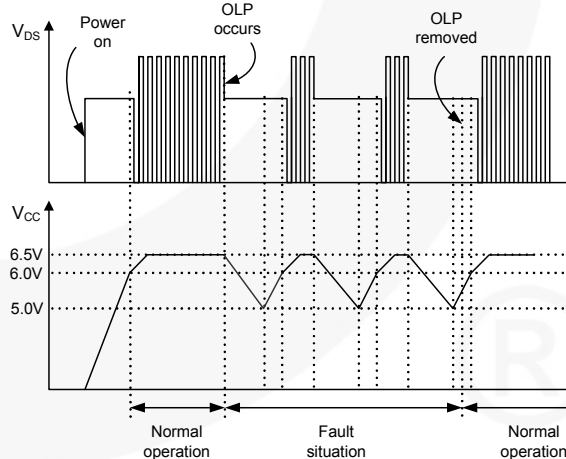

Figure 17.Auto Restart Protection Waveforms
3. Protection Circuits: The FSQ500L has two self-protective functions: overload protection (OLP) and thermal shutdown (TSD). While OLP is implemented as auto-restart mode, there is no switching when TSD triggers. Once the overload condition is detected, switching is terminated, the senseFET remains off, and HV/REG turns off. This causes V_{CC} to fall. When V_{CC} falls below the under voltage lockout (UVLO) stop voltage of 5.0V, the protection is reset and the startup circuit charges the V_{CC} capacitor. When V_{CC} reaches the start voltage of 6.0V, the FSQ500L resumes its normal operation. If the fault condition is still not removed, the senseFET and HV/REG remain off and V_{CC} drops to V_{STOP} again. In this manner, the auto-restart can alternately enable and disable the switching of the power senseFET until the fault condition is eliminated, as shown in Figure 17.